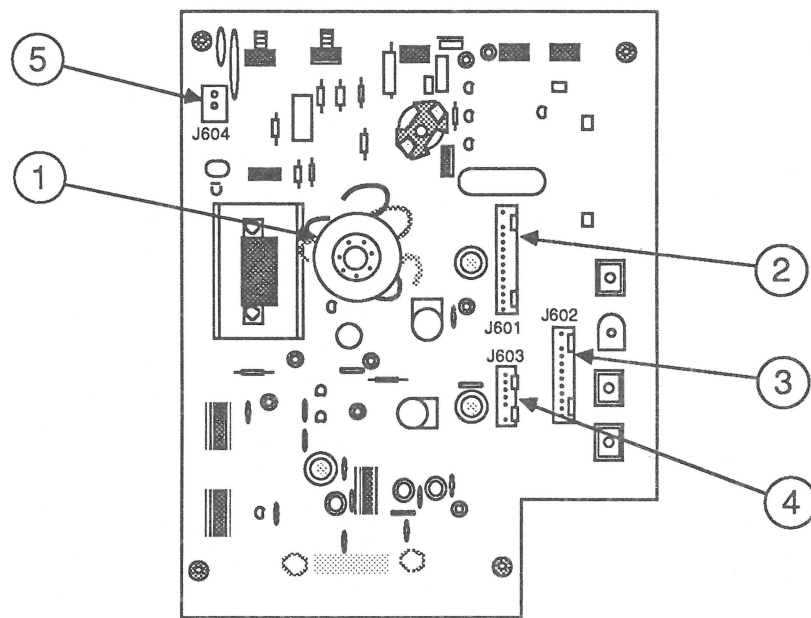

FIGURE 12
1. Reconnect to the video board the connectors listed in Table 2 and shown in Figure 12.
2. Lower the video board into the chassis frame, folding the 6-wire cable to connector J603 (Figure 12, #4) and the 11-wire cable to connector J602 (Figure 12, #3) along the side of the video board.
3. Replace the CRT socket (Figure 12, #1) on the neck of the CRT.